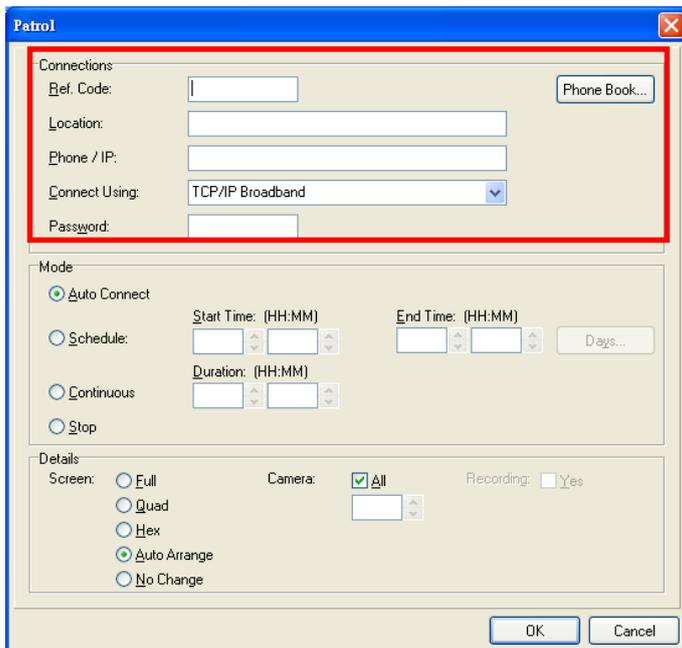

Fig 12.1b
Step 1 : Click [New] button on {Scheduler Option} panel to pop up {Patrol} panel as shown on Fig 12.1b.